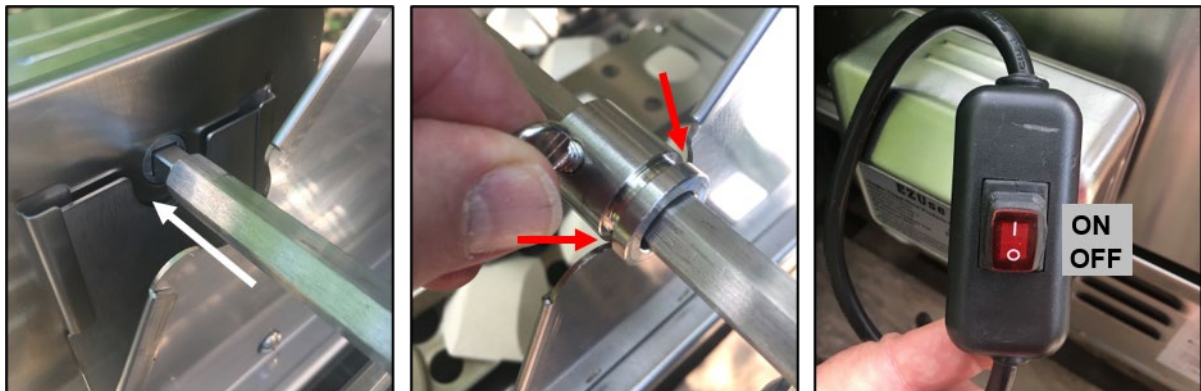

Figure 34 Rotisserie Setup 2
6. Insert the square end of the spit rod into the driver motor (Figure 34 left)
7. Lower the other end of the spit rod to the rotisserie cutout in the frame, and position the shaft collar so the groove aligns with the cutout; tighten the thumbscrew with the end against a flat surface of the rod (Figure 34 center)
8. Plug rotisserie motor into an approved outlet and toggle the switch ON to operate (Figure 34 right)